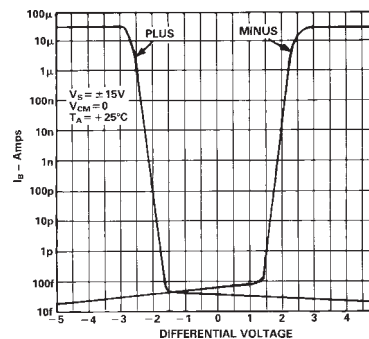

Figure 10. Input Bias Current vs. Differential Input Voltage
4. Figure 10 shows the AD515A's input current versus differential input voltage. Input current at either terminal stays below a few hundred fA until one input terminal is forced higher than  $1\text{ V}$  to  $1.5\text{ V}$  above the other terminal. Input current limits at  $30\text{ }\mu\text{A}$  under these conditions.